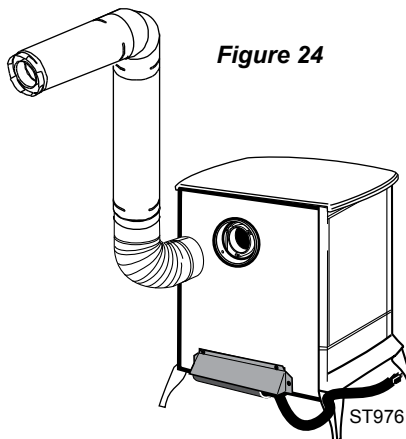

Figure 24
**Step 2.** DirectVent Pro pipe and fittings are designed with special twist-lock connections. To connect the venting system to the appliance flue outlet, a twist-lock appliance adaptor is built into the appliance at the factory. Assemble the desired combinations of black pipe sections and elbows to the appliance adapter with pipe seams oriented towards the wall or floor, as much out of view as possible. (Fig. 24)